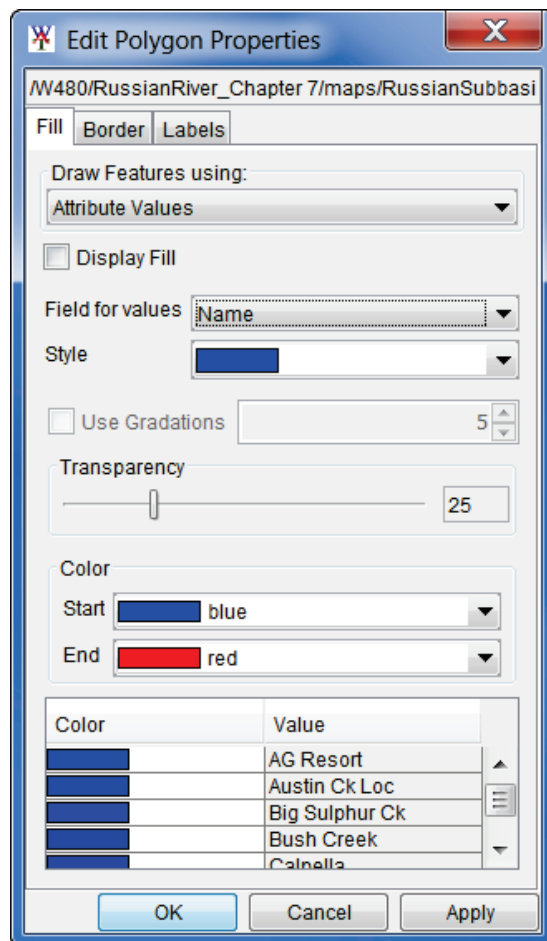

**Figure D.6** Edit Polygon Properties Dialog Box
2. The **Edit Polygon Properties** dialog box (Figure D.6) will open.
list, this default is **One Fill**, with **Display Fill** (Figure D.6) set. The user can turn on and off the filling of the shapes (polygons) by selecting and un-selecting **Display Fill**; change the color of the shapes from the **Color** list (Figure D.6); change the style of shapes from the **Style** list; and, change the transparency of the shapes from the **Transparency** slider (Figure D.6).